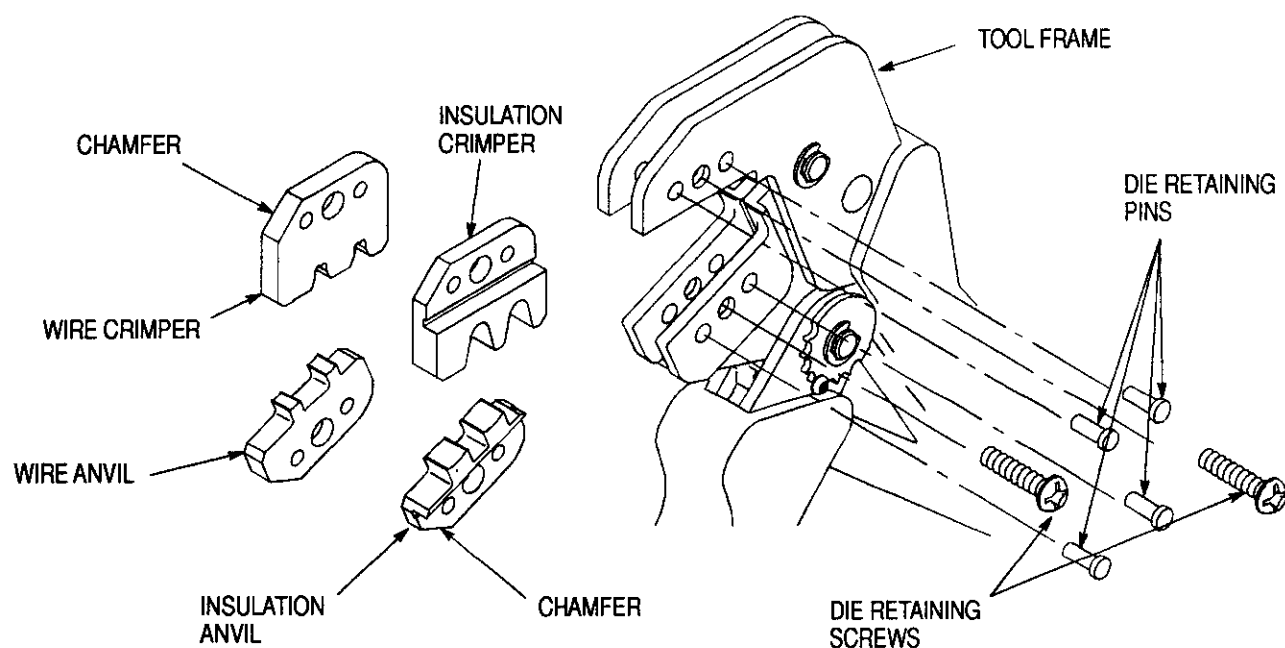

Figure 2
3. INSTALLATION AND REMOVAL OF DIE SET (Figure 2)